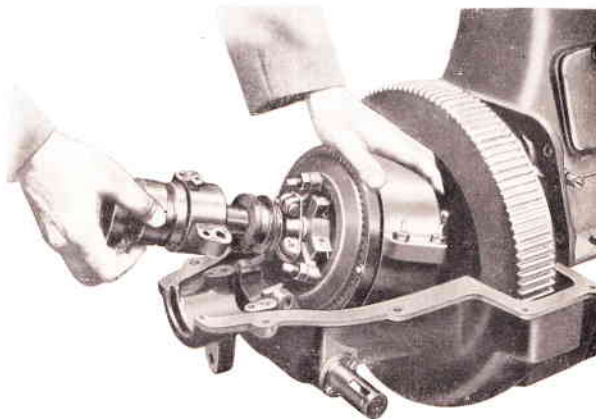

Figure 7.
**Reverse Gear with Multiple Disc Clutch.** The reverse gear and the flywheel are entirely enclosed, the reverse gear casings being bolted directly to the cylinder block and crankcase. The reverse gear is particularly short, on account of its being partly encased in the flywheel. The multiple disc clutch, requiring a small space, allows a specially sturdy arrangement with a particularly even and vibrationless action, furthermore enhanced by the position of the flywheel, between the engine and the reverse gear. The projecting driving shaft runs in SKF Roller and Ball Bearings, which take up all radial and axial pressure from the propeller shaft. Easily accessible adjustment screws are provided for the coupling drum and for the clutch, also for the friction strap, those for the latter being outside the reverse gear casing. The reverse gear can be inspected through the large inspection cover on top of the gear casing. It may be noted that by removing the upper reverse gear casing and the thrust bearing, *the entire reverse gear may be lifted from the lower casing* without further dismantling. (See Figure 7.)